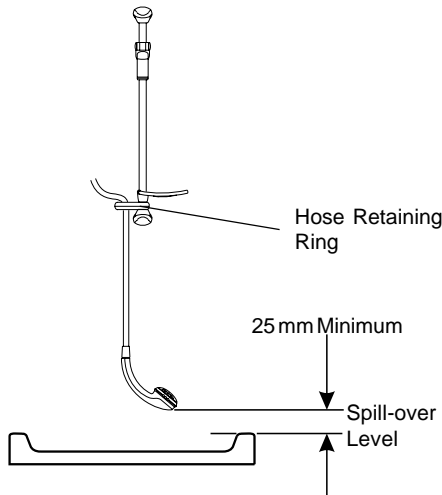

Figure 1
13. A hose retaining ring is supplied to prevent the handset from dropping below the spillover level of the bath or shower, which could lead to contamination from back-siphonage (refer to Figure 1). The supplied hose retaining ring should meet the great majority of user requirements for shower installations with flexible outlet fittings. However, there will be occasions when the hose retaining ring will not provide a suitable solution. In these instances an **outlet** double checkvalve, e.g. the Mira DCV-H, **must** be fitted. The inclusion of the Mira DCV-H will increase the required supply pressure typically by 0.1 bar.
1. Decide on a suitable position for the appliance (minimum distance of 200 mm from the ceiling to allow for cover fit and removal). The position of the appliance and the shower fittings must provide a minimum gap of 25 mm between the spill-over level of the shower tray/bath and the handset. This is to prevent backsiphonage (refer to Figure 1).